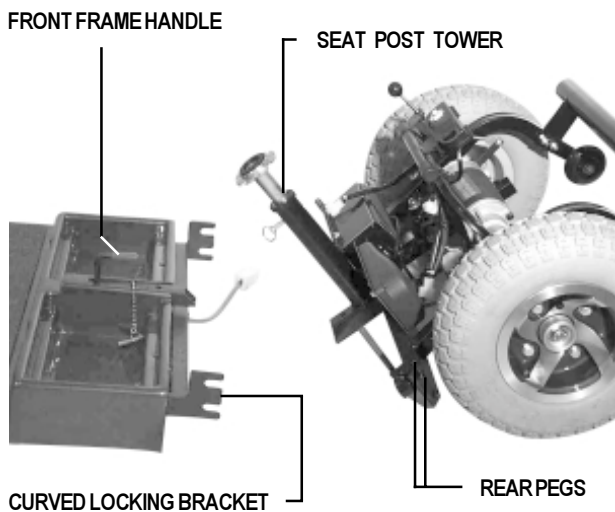

Figure 15. Connect Front and Rear Sections
12. Place one hand on the seat post tower and one hand on the front frame handle; gently slide the front and rear sections apart. See figure 15.
2. Position the front and rear sections of your Scooter as shown in figure 15.